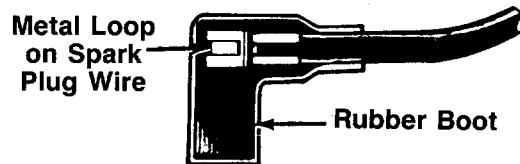

FIGURE 17.
3. Attach spark plug wire to spark plug. If unit is equipped with a rubber boot over the end of the spark plug wire, make certain the metal loop on the end of the spark plug wire (inside the rubber boot) is fastened securely over the metal tip on the spark plug. See figure 17.